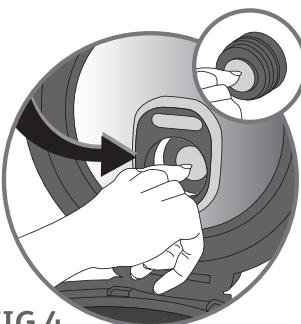
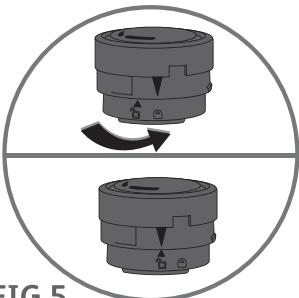

FIG.4
FIG.5
- After removing the inner lid, push up the micro-pressure valve through the hole on the underside of the lid with a finger – **Fig.4**. To separate the upper and lower parts of the micro-pressure valve, rotate the valve in the unlocking direction by turning the upper triangle until it is aligned with the open padlock symbol then separate – **Fig.5** and **Fig.6**.